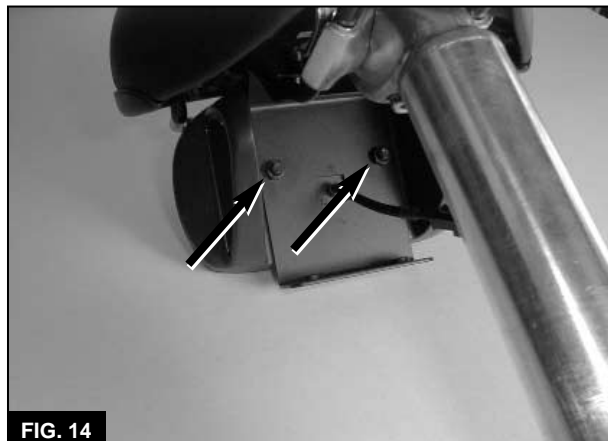

FIG. 14
3. Remove the two taillight mounting nuts (**Figure 14**), and remove the taillight assembly from the seat bracket.